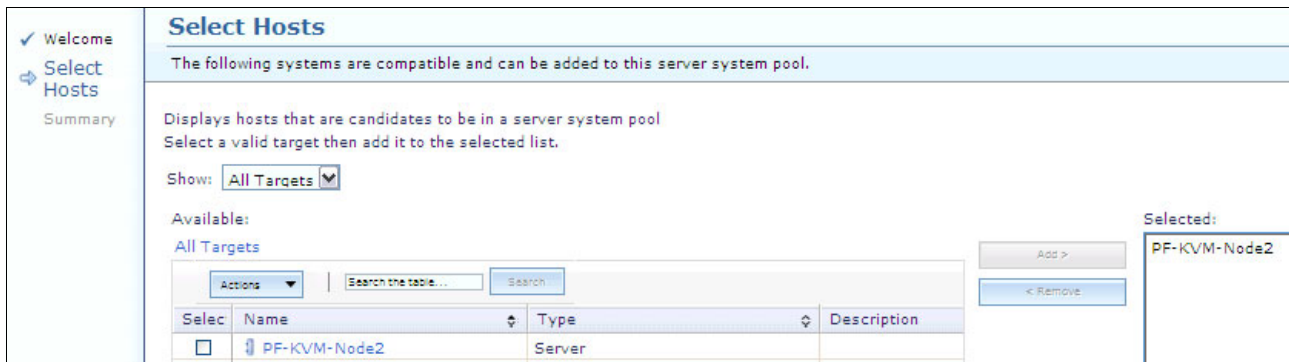

Figure 9-107 Select hosts to add to an existing server system pool
4. Select the host that you want to add to your server system pool as shown in Figure 9-107, then click **Next**.